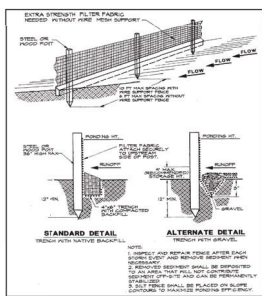

Figure 3.4d: Silt fence
- When used to control sediments from a steep slope, silt fences should be placed away from the toe of the slope for increased holding capacity (see Figure 3.4d).